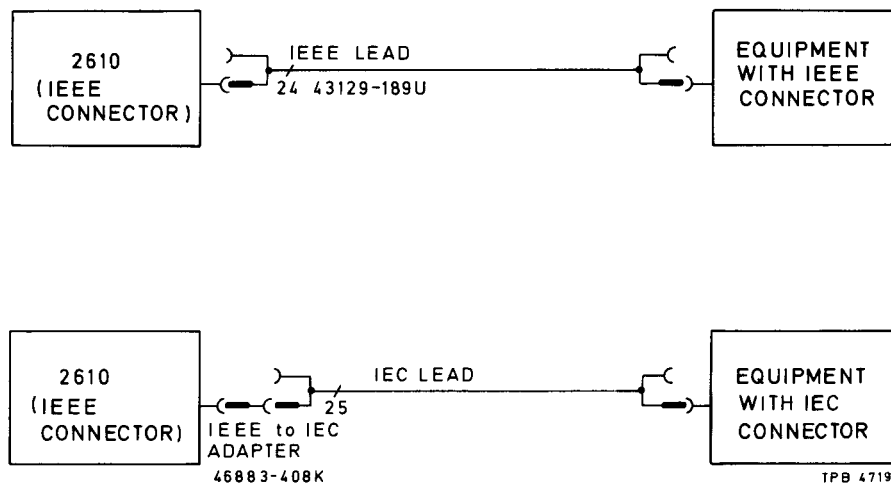

Fig. 3 GPIB interconnections
24. Connection to other equipment which has a 24-way bus connector to IEEE Standard 488 can be made with the GPIB lead assembly 43129-189U, available as an optional accessory. An IEEE-to-IEC adapter 46883-408K is also available for interfacing with systems using a 25-way bus connector to IEC Recommendation 625 - see Fig. 3.